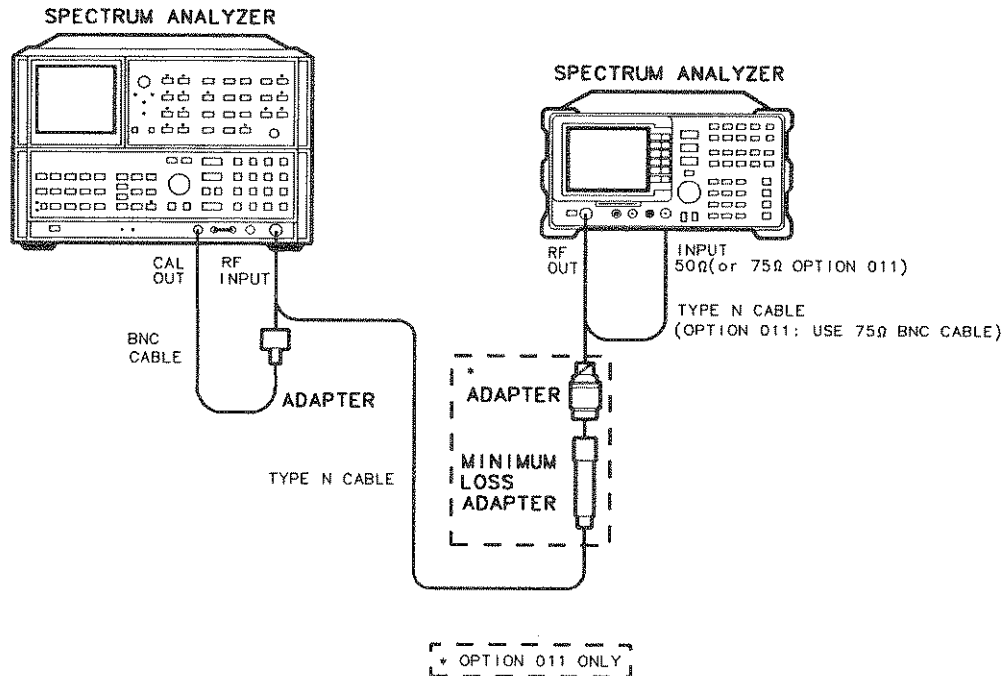

Figure 3-29. Harmonic Spurious Outputs Test Setup
1. Connect the Type N cable between the RF OUT 50Ω and INPUT 50Ω connectors on the HP 8591A Spectrum Analyzer. See Figure 3-29.
7. Connect the Type N cable from the tracking generator output to the HP 8566A/B RF INPUT as shown in Figure 3-29.